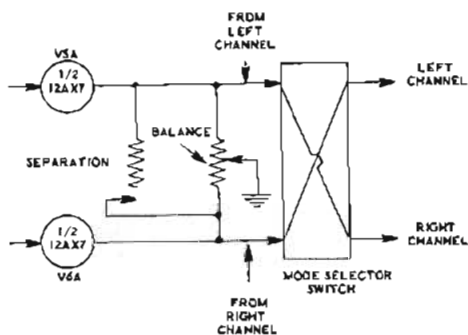

Figure 2B
**STEREO REVERSE** position: See Figure 2B. In this position signals from the Left Channel inputs are fed to the Right Channel output, and signals from the Right Channel inputs are fed to the Left Channel output.